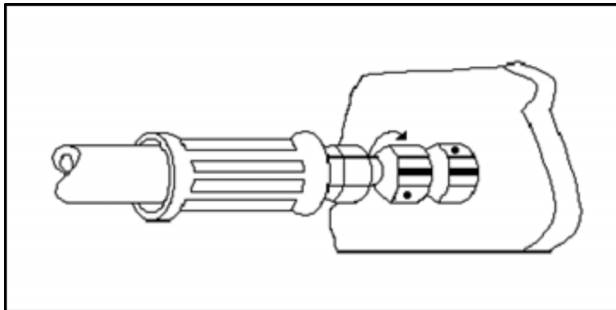

Figure 5-13. FFWR Method
2. Mark a dot on one of the swivel hex nut flats and another dot in line on the connecting tube adapter. See Figure 5-13.
3. Use the double wrench method per Figure 5-12., turn the swivel nut to tighten as shown in Figure 5-13. The nut is to be rotated clockwise the number of hex flats as defined by the applicable Table in Section 5.0.
4. After the connection has been properly tightened, mark a straight line across the connecting parts, not covering the dots, to indicate the connection has been properly tightened. See Figure 5-13.